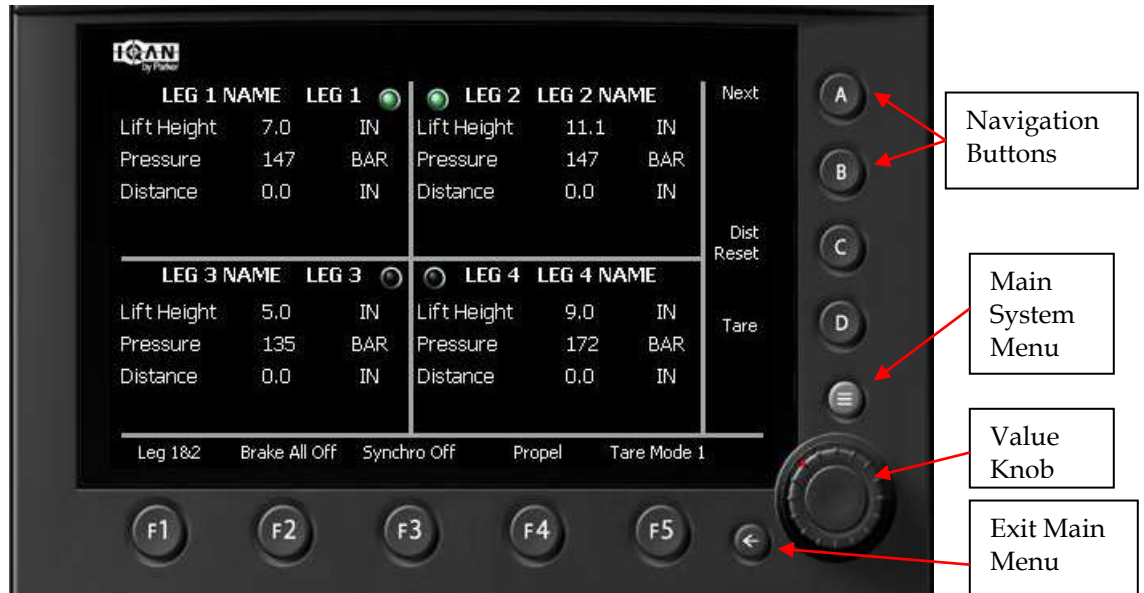

Figure 6.7 -Main Operating Page
- Switch key on the Master Control Station to Local. The Riggers logo then the Main Operating Page will be displayed (See figure 6.7)